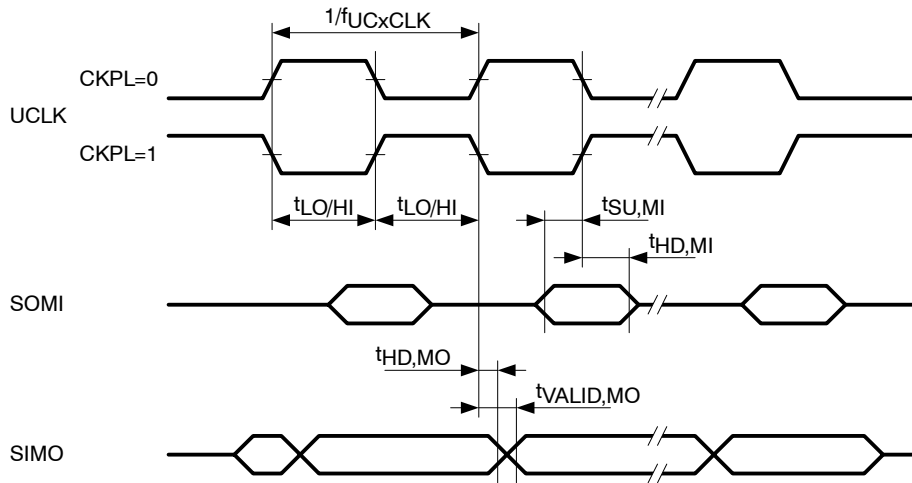
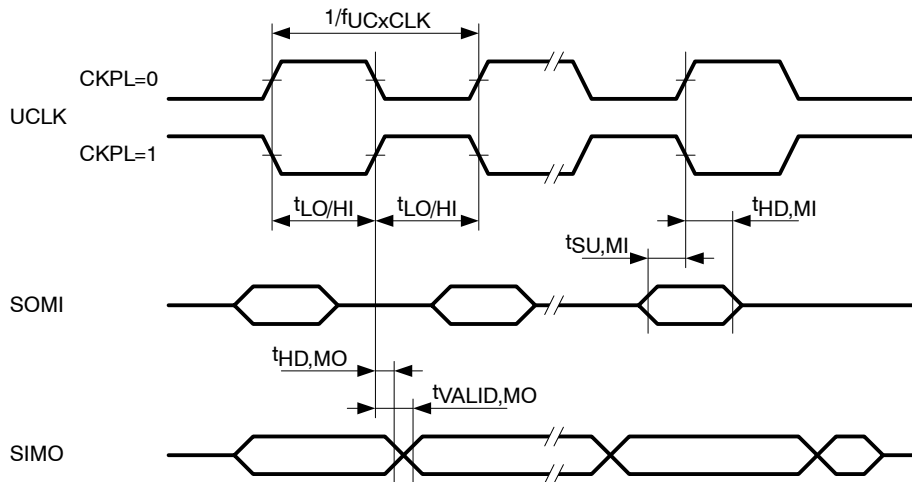

Figure 21. SPI Master Mode, CKPH = 0
Figure 22. SPI Master Mode, CKPH = 1
**USCI (SPI master mode) (see Note 1, Figure 21, and Figure 22)**
- Specifies the time to drive the next valid data to the SIMO output after the output changing UCLK clock edge. Refer to the timing diagrams in Figure 21 and Figure 22.
- Specifies how long data on the SIMO output is valid after the output changing UCLK clock edge. Negative values indicate that the data on the SIMO output can become invalid before the output changing clock edge observed on UCLK. Refer to the timing diagrams in Figure 21 and Figure 22.